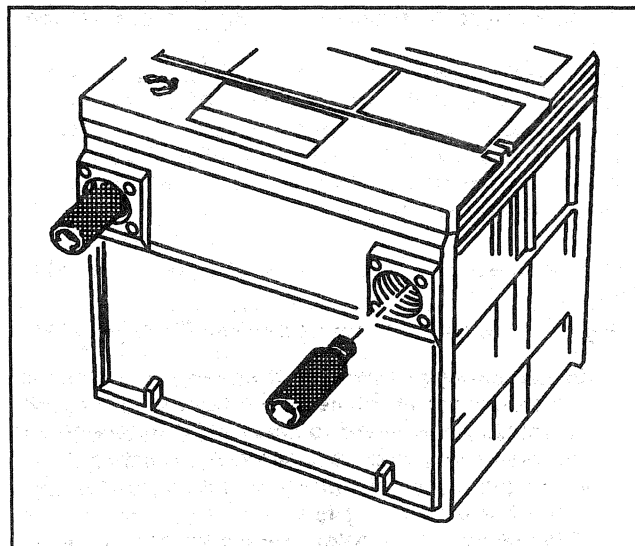

Figure 5—Battery Terminal Adapters
- Load testing requires the use of battery side terminal adapters (Figure 5), GM P/N 12303040 or equivalent to ensure good connections. Do not load test a frozen battery. Replace it.